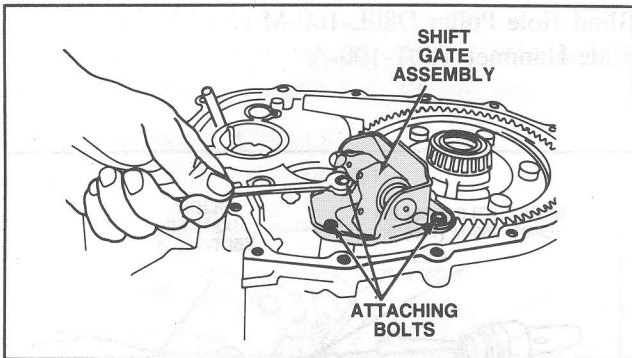

Figure 50 Shift Gate Removal
1. Remove the attaching bolts and the shift gate assembly. (Figure 50).